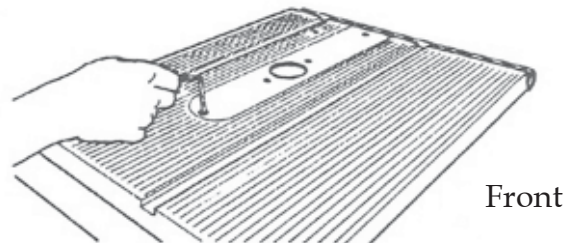

Figure C-89
2. Using your 5/32" Allen wrench, remove the Saw Table Insert (138) and replace it with the Shaper/Router Table Insert (see figure C-89).